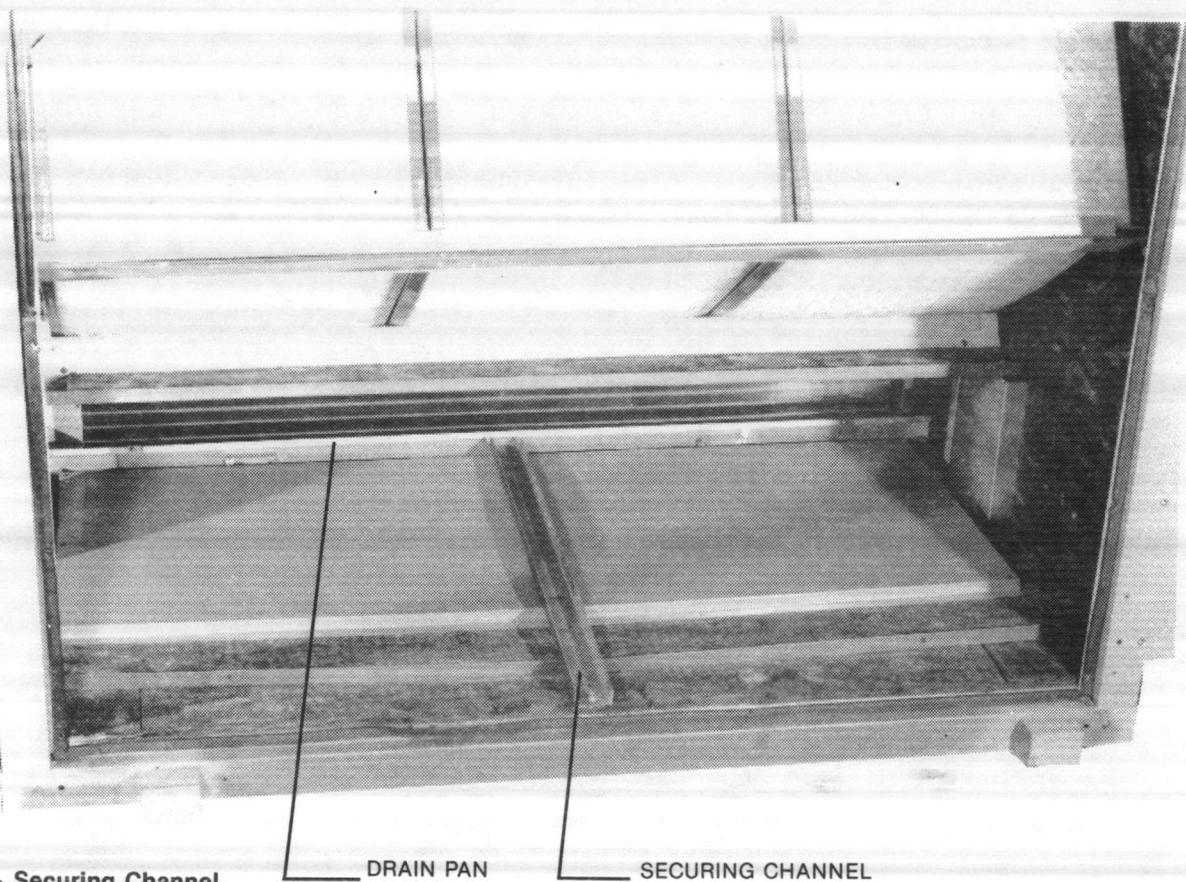

Figure 4 — Securing Channel
4. Secure these panels in place with the securing channel by pivoting the end tab under the drain pan lip and pulling the other end down to the base. This will compress the insulation and seal the openings. Fasten the channel in place with a short screw. See figure 4.